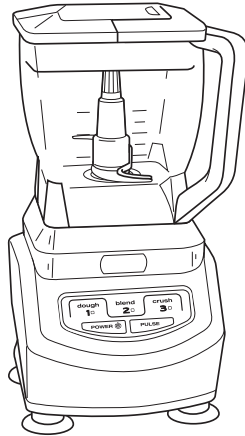

Fig. 11
- 1 Place the motor base on a clean, dry, level surface such as a counter or table top. (Fig. 11)
- 4 Add the ingredients and secure the bowl lid onto the bowl. (Fig. 11)